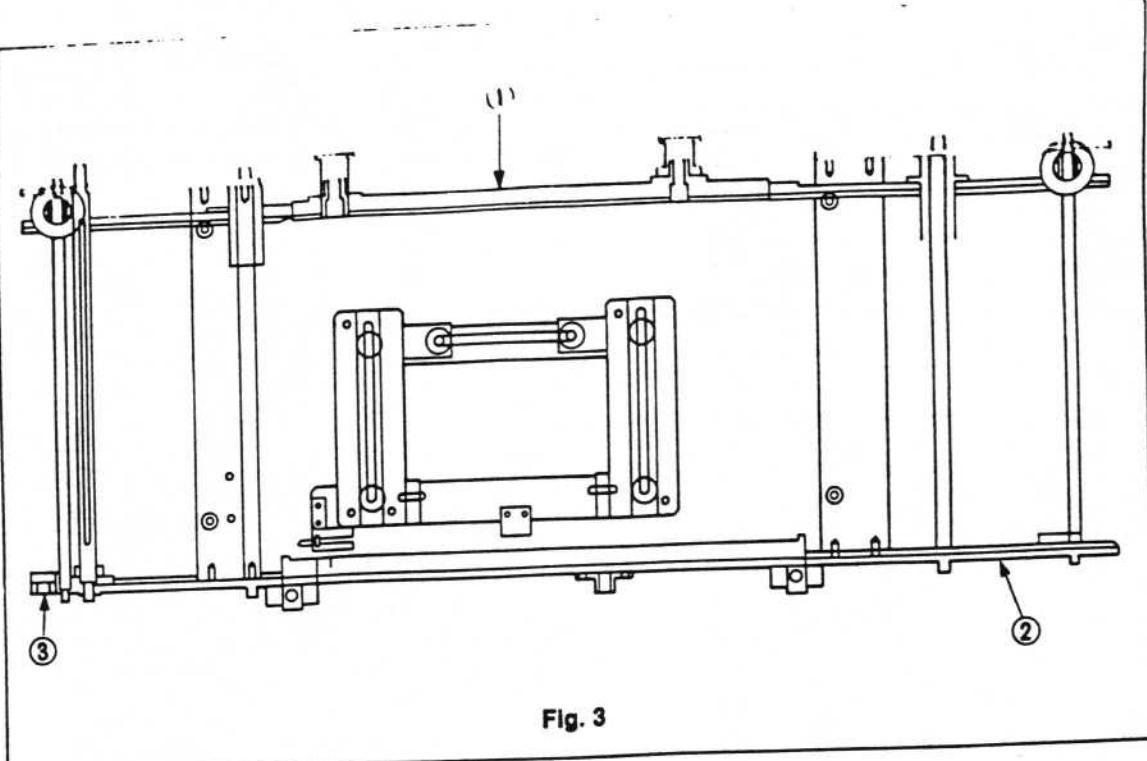

Fig. 3
The arm can be detached by removing the nut (8 mm) on the rear side of the arm shaft ②. Having removed the arm, the arm on the adjustable board conveyer ① (Figs. 3 and 4) side can be replaced. (When removing the arm, remove also the spring (③ in Fig. 2). Next remove the sensor bracket ③ on the fixed board conveyer ② side (see Figs. 3 and 4). By removing the arm in the same way as for side ①, the belt can be replaced.
Also replace the board conveyers (① and ② in Figs. 3 and 4). For the board conveyer ②, first remove the sensor bracket ③.